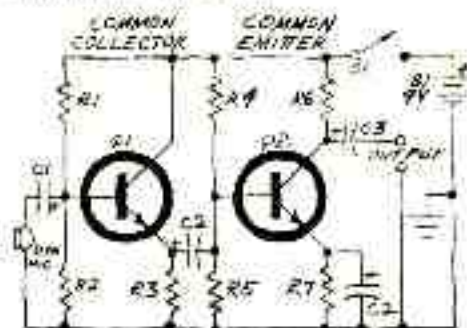

Fig. 5. Draw basic circuit diagram.
4. Now we can draw a preliminary design, such as that shown in Fig. 5. The battery supply is included, capacitors are marked for polarity, and components are numbered for reference.